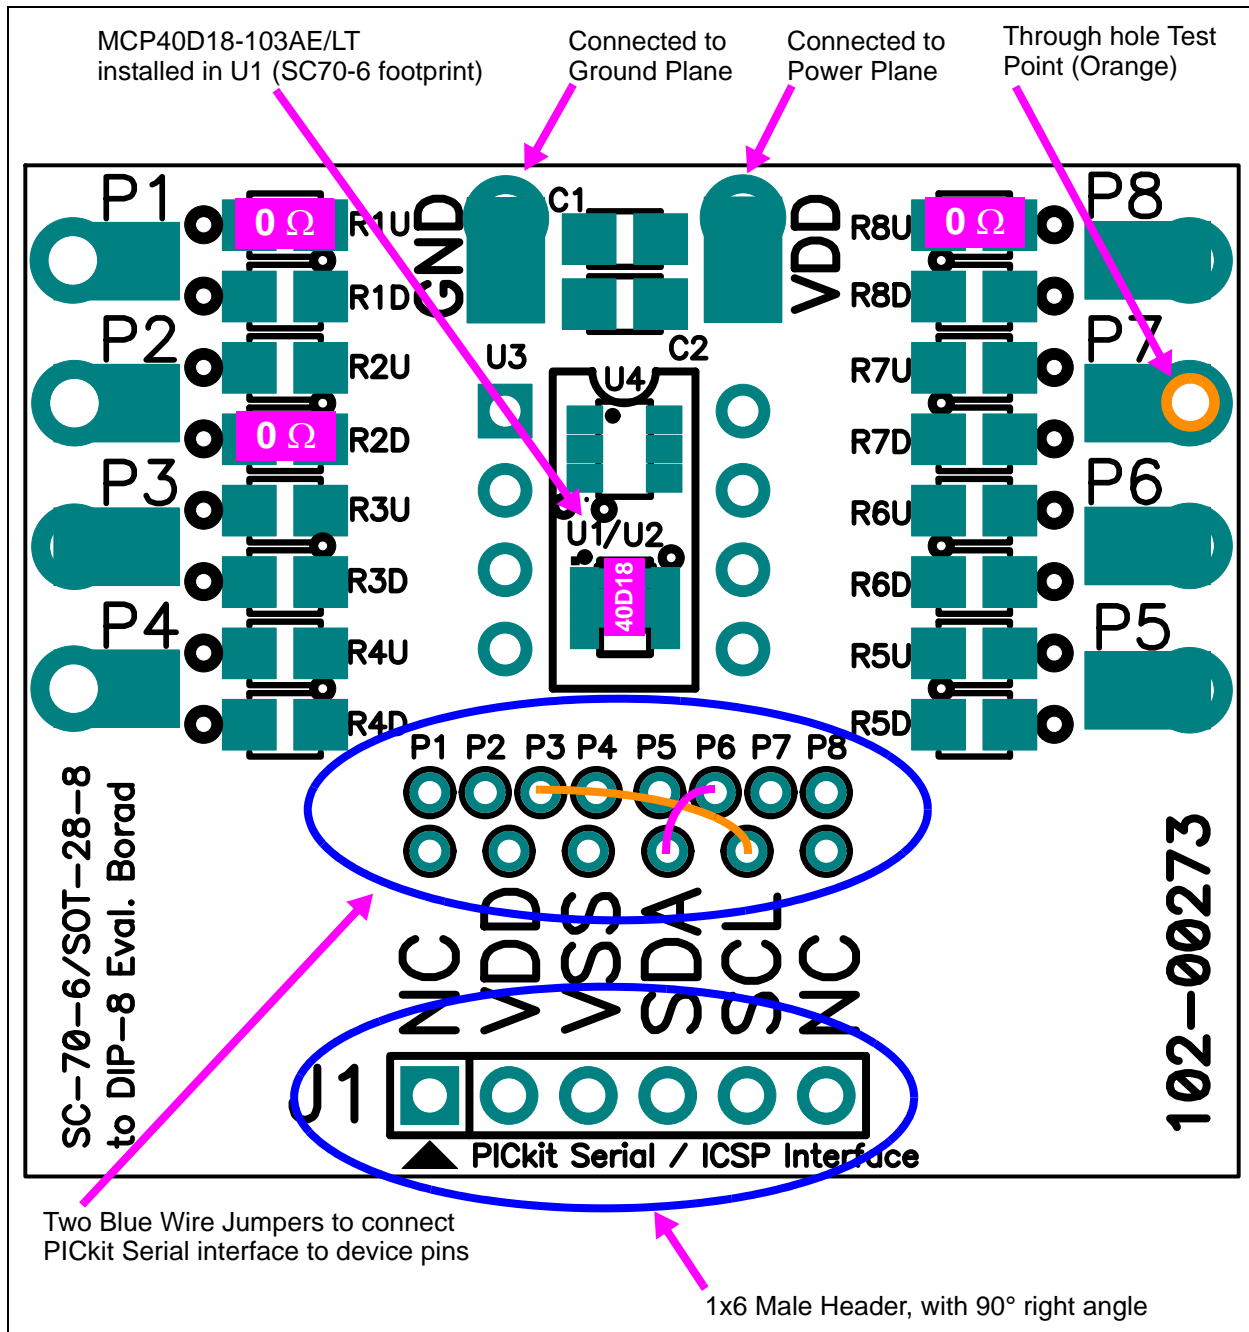

FIGURE 2-2: MCP401XEV Evaluation Board Component Placement Using the SC70EV Evaluation Board (Top).
Additional information on using the SC70EV Evaluation Board PCB or for modifying the MCP401XEV board is available in the SC70EV User's Guide (DS51874). **Appendix A. "Schematic and Layouts"** has information on the PCB schematic and layout while Figure 2-2 shows components that are installed on the PCB.
- 0 Ω resistors connect MCP40D18 VDD and VSS signals to the appropriate Power or Ground plane (see Figure 2-2)
- 0 Ω resistors connect MCP40D18 A terminal signal to Power plane, Resistor Network is in a voltage divider configuration (see Figure 2-2)
Figure 2-2 shows the component layout of the MCP401XEV Evaluation Board. This is a small four-layer board (1.43" x 1.255" (36.322 mm x 31.877 mm)). There are ten connection points/pads that can use either through-hole or surface-mount connector posts.